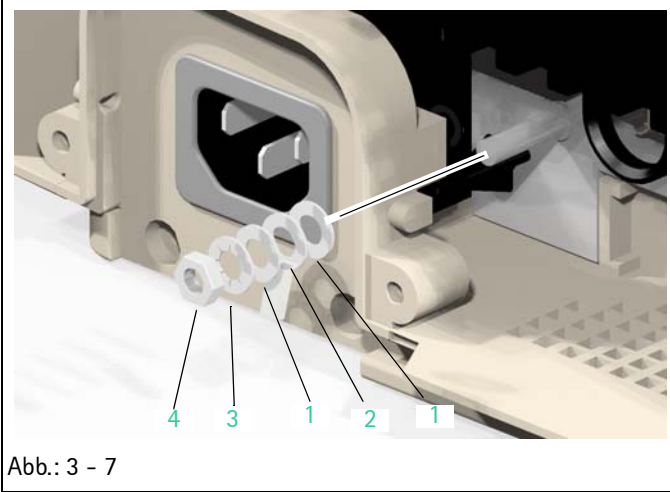

Abb.: 3 - 7
3. Loosen the nut (Abb.: 3 - 6 / Item 5) and remove nut together with the serrated lock washer (Abb.: 3 - 6 / Item 4), washer (Abb.: 3 - 6 / Item 3), the protective conductor cable to the power supply (Abb.: 3 - 6 / Item 1) and the protective conductor cable to connector "F1B" (Abb.: 3 - 6 / Item 2) from the grounding bolt.
Legende zu Abb. 3 - 7: